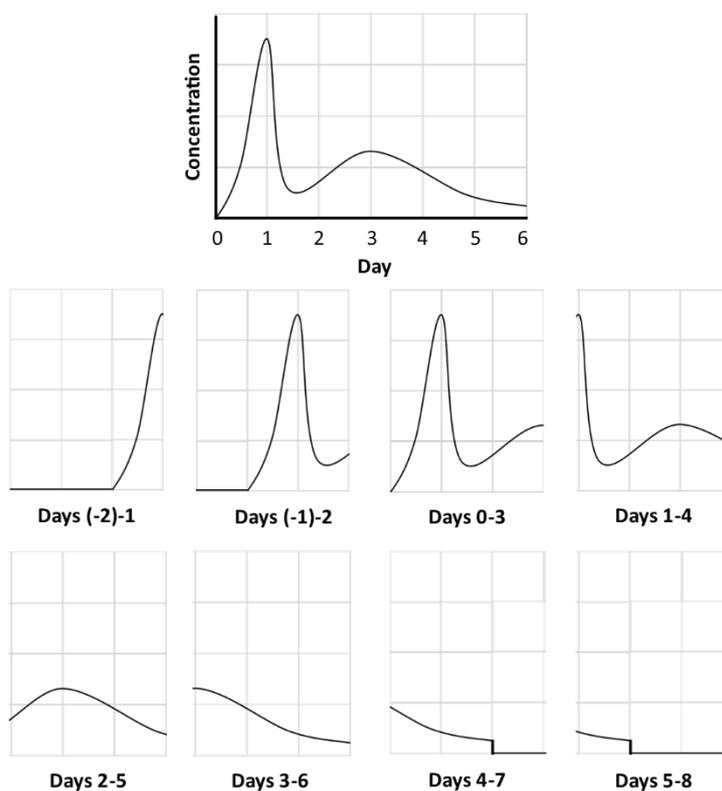

Figure 1: Diagram showing how a 6-day exposure profile would be padded with zeros and broken into eight overlapping windows of three days each.
*DeEP* evaluates each exposure profile using the 'moving time window' approach (Sherborne et al., 2020). This means that the whole profile is broken down into overlapping windows of a fixed length and predictions are made for each window separately. Each simulation can be thought of as a 'virtual toxicity test' or VTT. A simple example would be a 6-day exposure profile with a 3-day time window moving forward in 1-day timesteps (Figure 1). This would break down into four 3-day windows, with consecutive windows having two days of overlap.